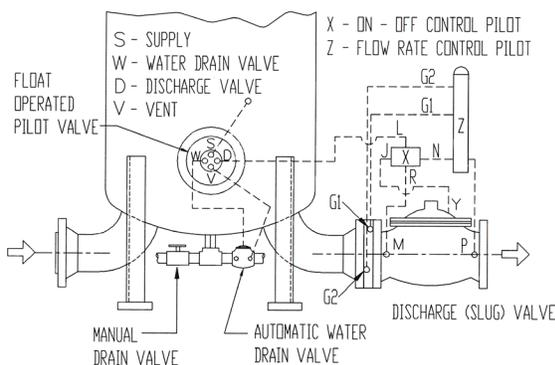
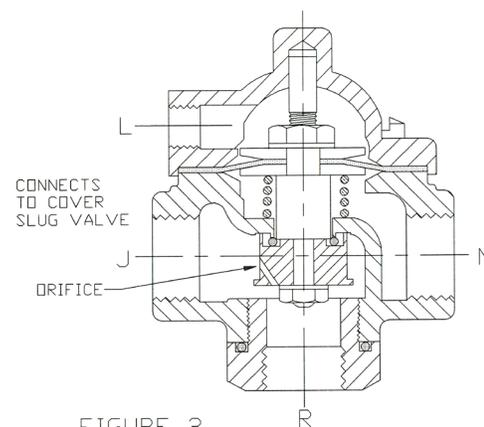

FIGURE 1
FIGURE 2
In Fig. 1, there are two pilot valves shown, X and Z. X is an On-Off pilot valve and the other (Z) controls the rate of flow. Watts*, Smith and Oil Capital make On-Off pilot valves that are similar. Each requires a pressure signal to cause the slug valve to open. A pilot of this type is shown in Fig. 2 in the closed position. Note that pressure from the supply port M is directed to Y, the cover of the slug valve, to close it. In other words, pressure from M goes through port R, then port J and to port Y on the cover. If control pressure from the float operated pilot valve is applied at port L to open the on-off pilot, the slug valve cover is vented through ports Y, J and N of the on-off pilot into port P. The slug valve then opens because system inlet pressure at M is greater than outlet pressure at P.
The Cla-Val system is exactly the same, except that the On-Off pilot (Fig. 4) works in the reverse of the one in Figure 2. In the position shown, control pressure is being applied at L. Supply pressure at R goes through J and directly to the slug valve cover through port Y to block fuel flow through the main (slug) valve. To open the slug valve, L must be vented so that pressure at R will lift the diaphragm and close port H. The orifice then supplies "pilot" flow and all other functions are the same as described for other brands. The slug valve cover is vented through port J to N and then to P.
When slug valve problems occur, our experience has been that diaphragm failures are the primary cause. These are easy to find. Disconnect the fitting at Y and turn on the pump. Continuous flow from the slug valve cover means a diaphragm failure. A failure of the On-Off pilot diaphragm in Figure 2 can be detected by disconnecting the fittings at N and L. Apply pressure at N and look for leakage at L. A failure in the rate of flow pilot diaphragm is found by disconnecting one of the orifice pressure fittings, G1, or G2. Leakage indicates failure of the diaphragm.